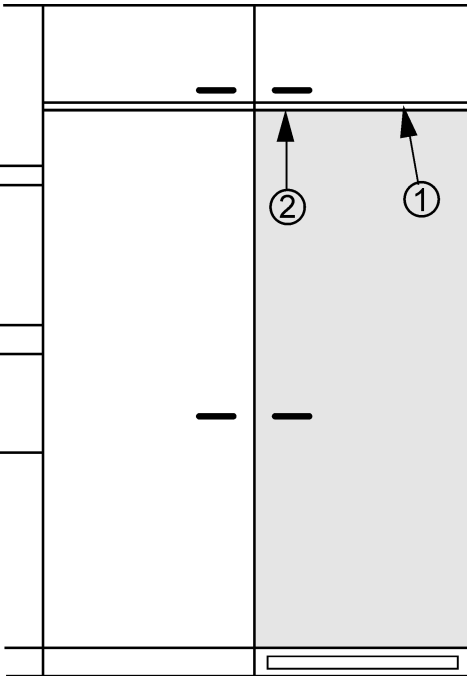

Fig. 6
- There must be a gap Fig. 6 (1) at least 1/8 in. (3 mm) wide between the door and the cabinet door above it (if present).
- The upper edge of the door Fig. 6 (2) should be level with the door of the adjacent cabinet (or cabinets), if other cabinets are present.